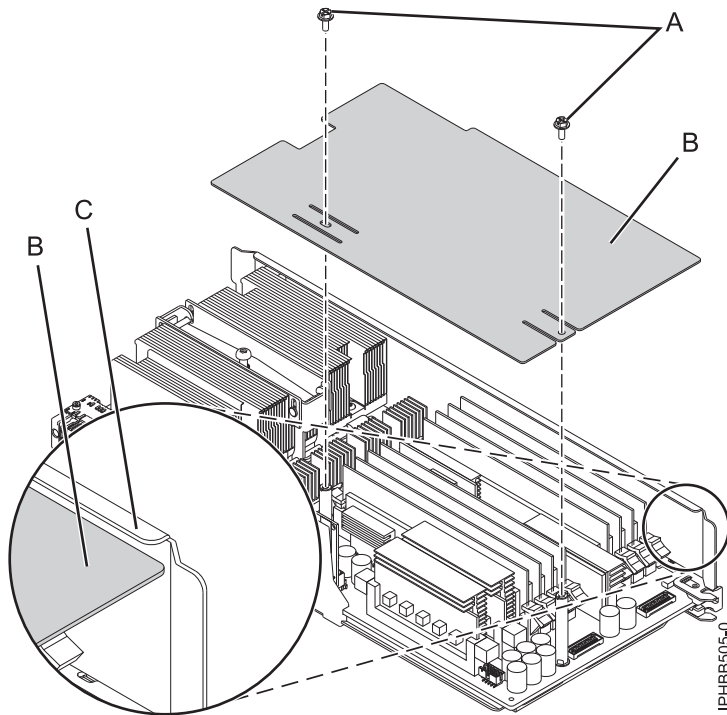

Figure 7. Removing the flat cover from the system processor
- If you have the flat cover shown in Figure 7, loosen the two screws (A), slide the cover (B) away from the sheet metal flange (C), and remove.